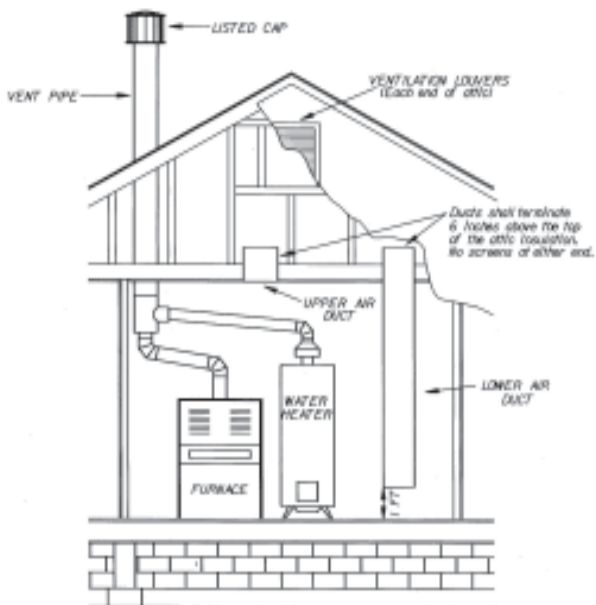

FIGURE 8
- (b) One Opening (1-3,000). The confined space shall be provided with one permanent opening located within the top 12 inches of the enclosure. The opening shall communicate directly or by duct to the outdoors. All the appliances in the enclosure shall have minimum clearances of 1 inch on the sides and back and 6 inches on the front. The opening shall be a minimum of 1 square inch per 3,000 Btu/h of total input rating of all appliances in the enclosure and not less than the combined cross sectional area of the appliance vent connectors in the confined space. (See Figure 8, Page 63)